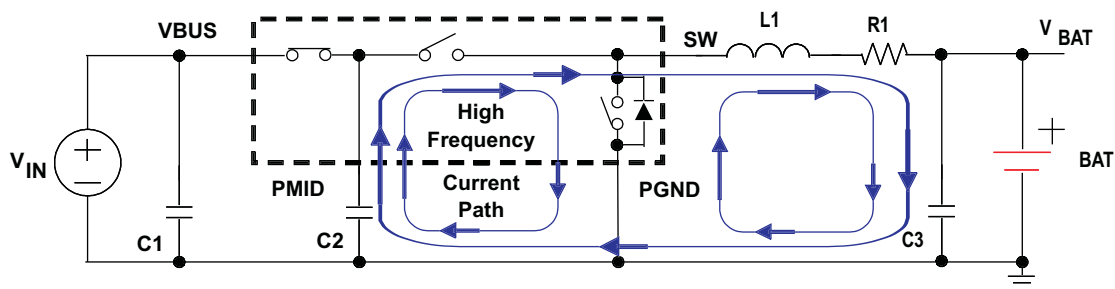
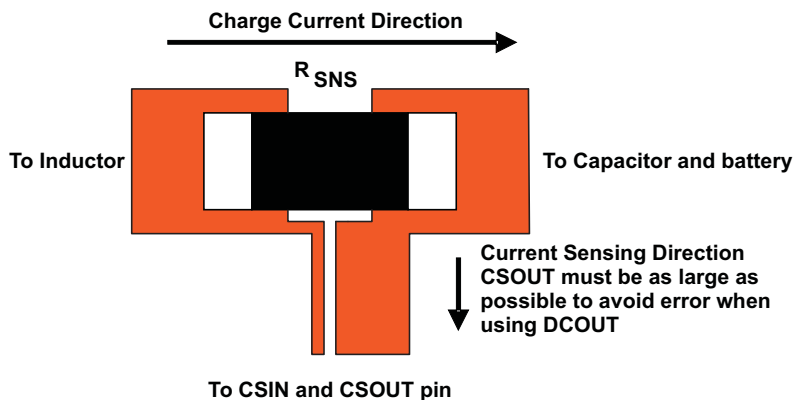

Figure 40. High Frequency Current Path
Figure 41. Sensing Resistor PCB Layout
- To obtain optimal performance, the power input capacitors, connected from input to PGND, should be placed as close as possible to the bq24185. The output inductor should be placed close to the IC and the output capacitor connected between the inductor and PGND of the IC. The intent is to minimize the current path loop area from the SW pin through the LC filter and back to the PGND pin. To prevent high frequency oscillation problems, proper layout to minimize high frequency current path loop is critical (see Figure 40). The sense resistor should be adjacent to the junction of the inductor and output capacitor. Route the sense leads connected across the RSNS(R1) back to the IC, close to each other (minimize loop area) or on top of each other on adjacent layers (do not route the sense leads through a high-current path, see Figure 41).